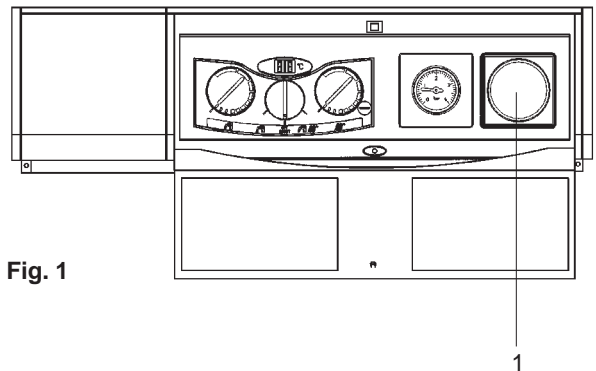

Fig. 1
Remove the clock aperture blanking plate (1) (see fig.1) by squeezing the 4 lugs on the rear of the plate together and push the plate out.